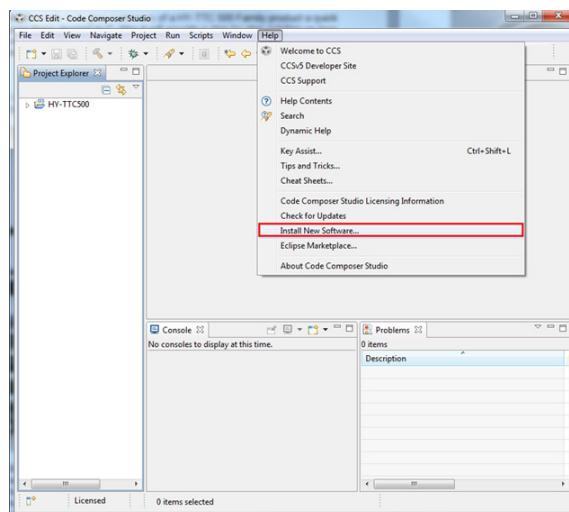

Figure 5.1: CCS Edit – Code Composer Studio
1. Click **Help > Install New Software** (see Figure 5.1 on the following page) to open the **Install** dialog.